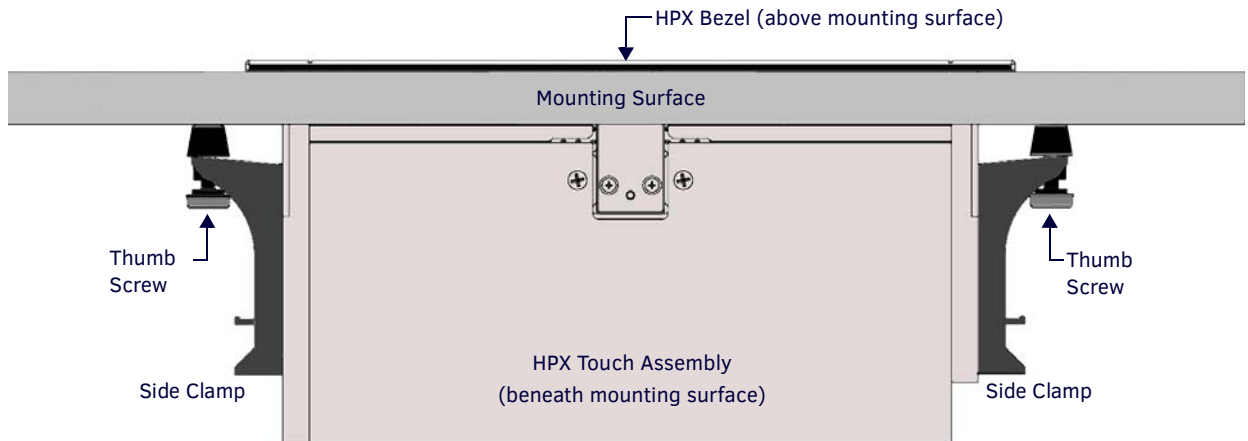

FIG. 12 Tighten the Side Clamps to secure the HPX to the Mounting Surface
- d. Tighten the thumb screws on all four Clamps to secure the HPX assembly to the mounting surface (FIG. 12):